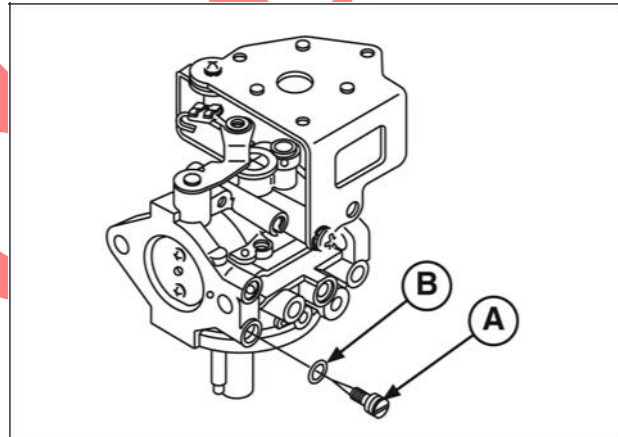

Figure 41
2. Install idle mixture screw (A, Figure 41) with new o-ring (B).